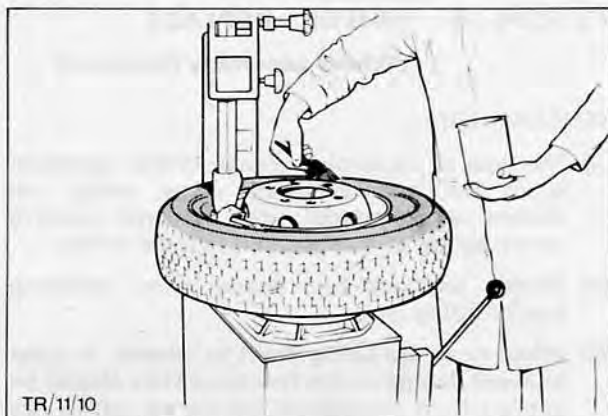
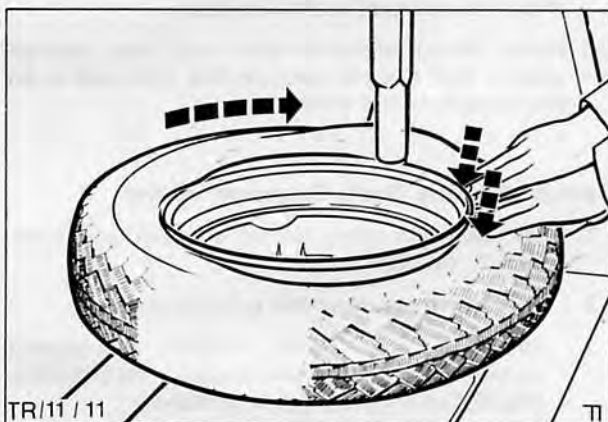

Fig. 10. Lubricate tyre beads before fitting tyre.
Fig. 11. Fitting tyre onto wheel.
6. Locate and fit new valve ensuring it is correctly seated in wheel. Lubricate tyre beads, Fig. 10, and refit tyre to wheel, Fig. 11. As tyre is being fitted ensure 'fitted' portion of beading is guided into wheel channel to ensure remaining bead can fit over rim.